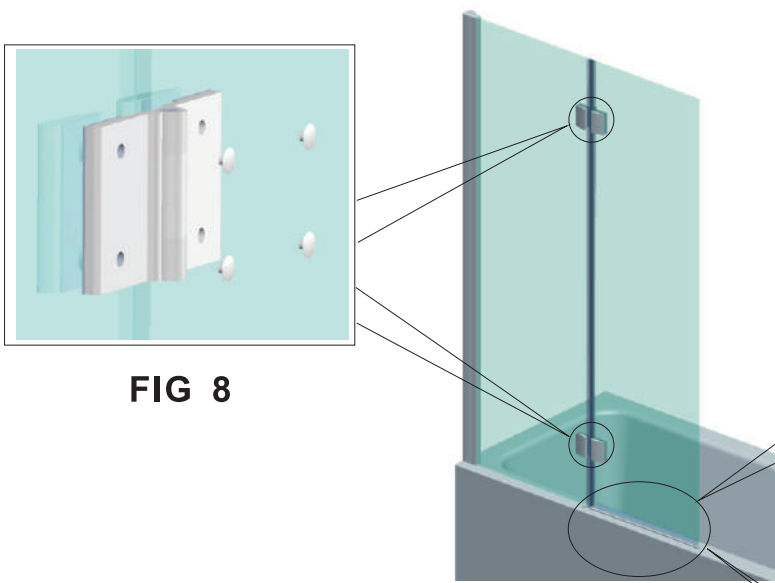

FIG 8
8. Fix the cover cap(M7012B) to both hinge. **Fig 8.**